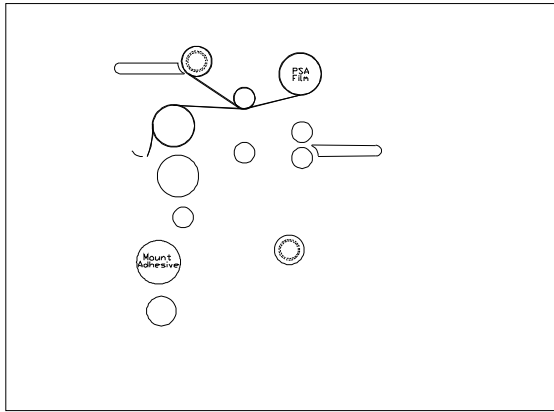

Figure 22
2. Load the rolls of film as illustrated in (Fig. 22). Ensure no brake tension is applied to the film shafts.
5. Make two full wraps around the rewind tube, and then score the laminate without cutting the release liner. Pull the laminate down allowing it to drape over the upper roller (Fig. 22).